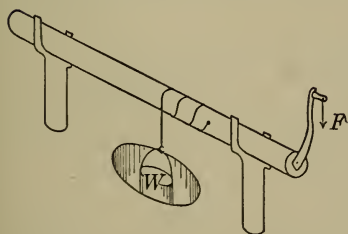

FIGURE 261.—THE WINDLASS IS A WHEEL AND AXLE.
**283. Applications of Wheel and Axle.**—The windlass used in removing dirt from wells or manholes in the street is an application of the wheel and axle. (Figure 261.)